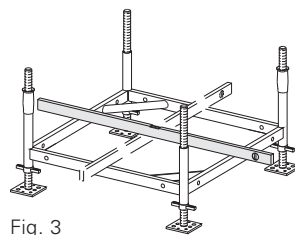

Fig. 3
3. Check the evenness by means of a spirit level and adjust height if necessary. (Fig. 3)